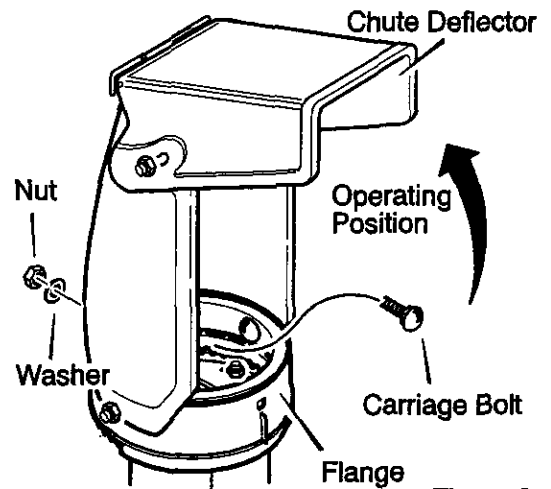

Figure 8
1. Remove the carriage bolt. See Figure 8.